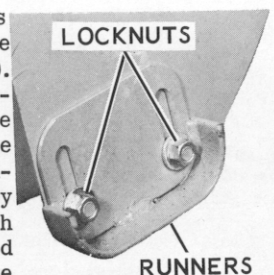

Figure 1
a. An adjustable runner is provided on each end of the blower housing (figure 1). Raising or lowering these runners controls the distance the scraper blade is held above the surface being plowed. Adjustment is accomplished by loosening the two nuts on each of the runners to the desired position and retightening the nuts.